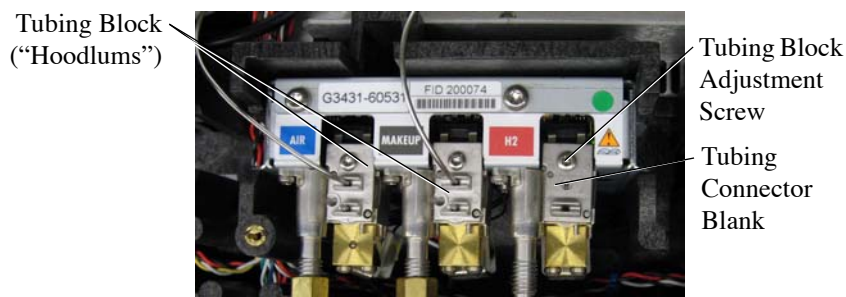

Figure 3.12. Tubing Connector Blanks
7. Remove the appropriate tubing connector blanks (Figure 3.12) from the EPC module to expose the O-rings and restrictors.